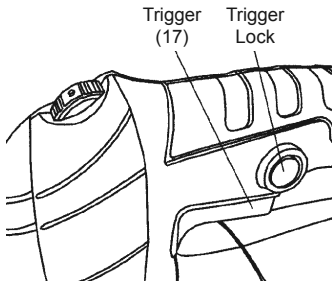

Figure 4
3. Squeeze the Trigger (17) to turn on the Jigsaw. If operating the Jigsaw for an extended period of time, press the Trigger Lock to lock the Trigger in its "ON" position. See Figure 4, below.